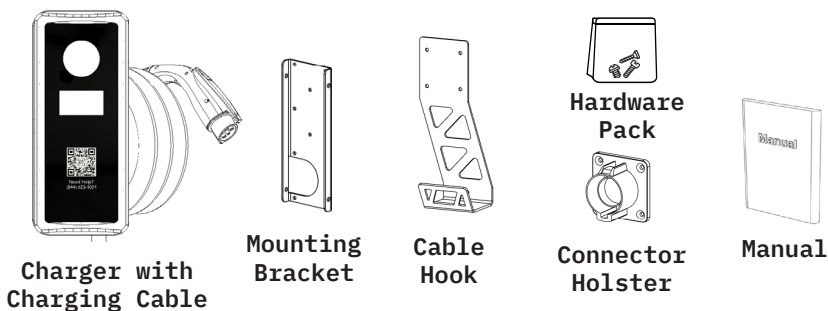

Figure 3-1 Shipping Carton Contents
Step 2: Verify that all the components shown in **Figure 3-1** are included.